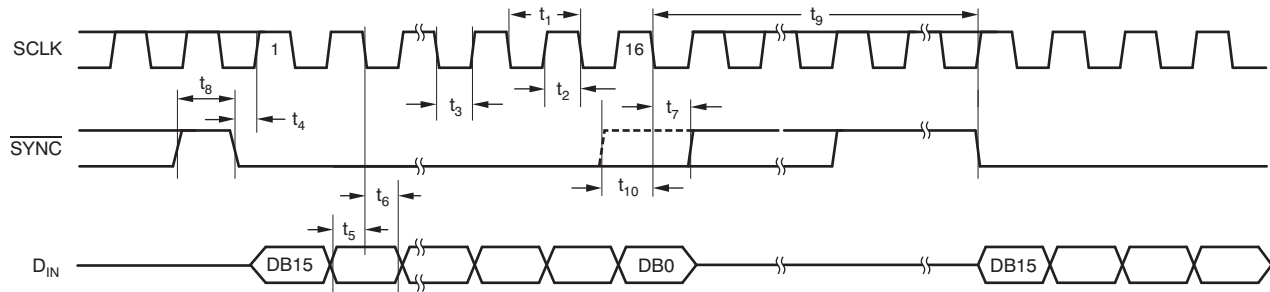

Figure 1. Serial Write Operation: 14-Bit (DAC8311)
(1) All input signals are specified with $t_R = t_F = 3\text{ ns}$ (10% to 90% of AV_{DD}) and timed from a voltage level of $(V_{IL} + V_{IH})/2$.
(2) See Figure 1 timing diagram.